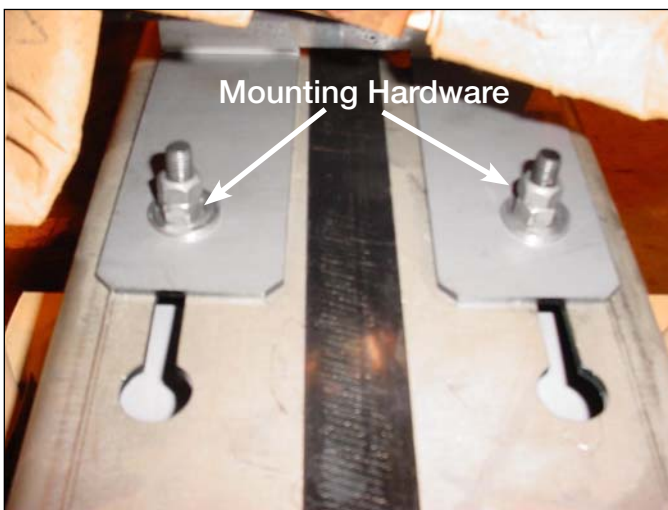

Figure 9.
- Remove the mounting bolts fastening the tap changer-mounting bracket to the top core clamp. See Figure 9. Remove the tap changer from the regulator and place on a work surface.